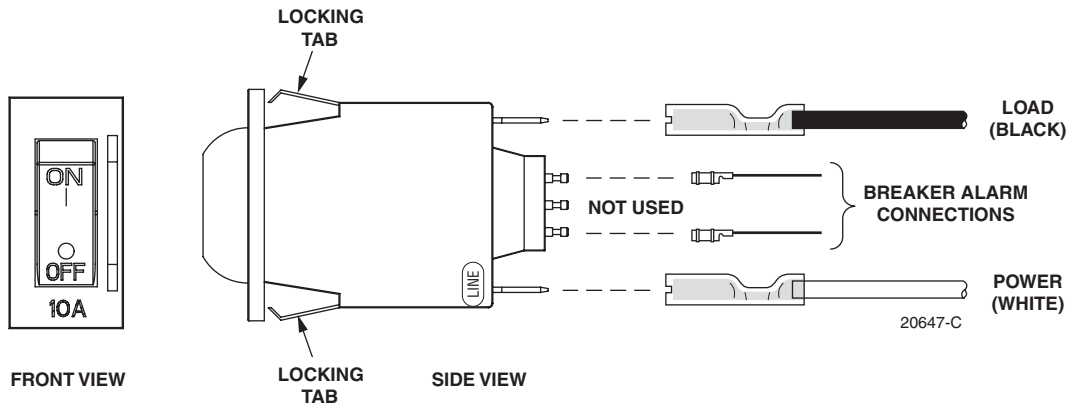

Figure 20. Circuit Breaker
10. Connect the power and load wires to the specified terminals on the rear side of the replacement circuit breaker (see Figure 20). Note that with the circuit breaker oriented as shown, the black load wire connects to the top terminal and the white power wire connects to the bottom (LINE) terminal.
11. Connect the two alarm wires to the specified terminals on the rear side of the replacement circuit breaker (see Figure 20).